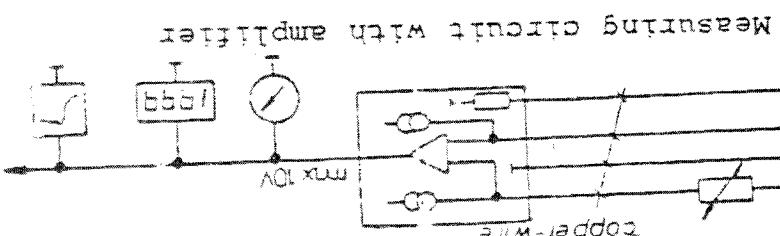

Fig. 5 Measuring circuit with amplifier
- The high output voltage of the amplifier (10 V with max. measuring range) allows direct connection of different measuring instruments including all data processing systems (fig. 5). The measuring ranges can be converted at any time by closing soldering points.
The high output voltage of the amplifier (10 V with max. measuring range) allows direct connection of different measuring instruments including all data processing systems (fig. 5). The measuring ranges can be converted at any time by closing soldering points.